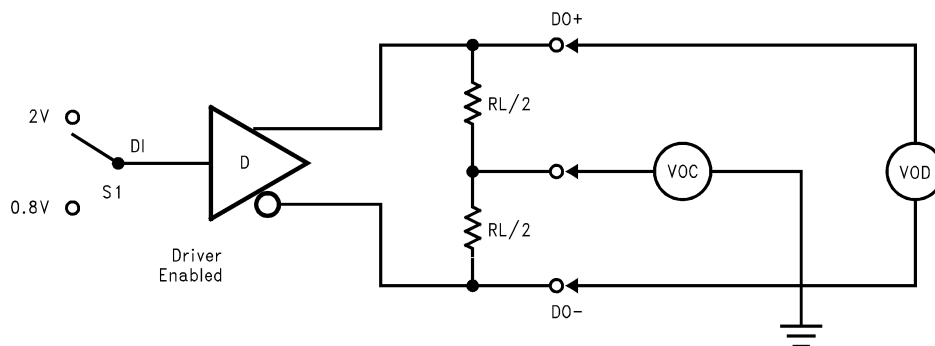

Figure 2. Differential Driver DC Test Circuit
| V OD2  | Output Differential Voltage                        | R L = 100Ω See <a href="#">Figure 2</a>                               |                 | 2    | 2.6   |                 | V     |
| V OD3  | Output Differential Voltage                        | R L = 3900Ω (V.11), See <a href="#">Figure 2</a> (3)       |                 |      | 3.2   | 3.5             | V     |
| V OC   | Common Mode Voltage                                | R L = 100Ω See <a href="#">Figure 2</a>                               |                 |      | 1.5   | 2               | V     |